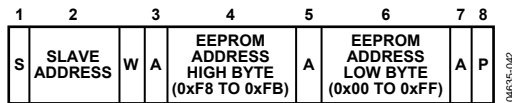

Figure 36. Setting an EEPROM Address
- To set up a 2-byte EEPROM address for a subsequent read, write, block read, block write, or page erase. In this case, the command byte is the high byte of the EEPROM address from 0xF8 to 0xFB. The only data byte is the low byte of the EEPROM address, as shown in Figure 36.